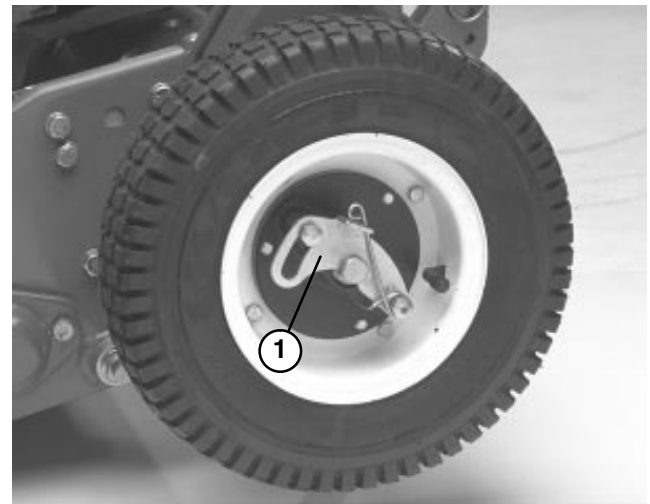

Figure 4
4. Apply Never–Seez to the exposed ends of axles and slide wheel onto axle (Fig. 4).
5. Pivot wheel locking clip away from center of wheel allowing wheel to slide farther onto axle (Fig. 4).